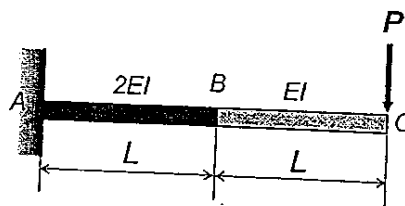

Figure Q4(b)
- (c) By using the results from parts (a) and (b) and the **Method of Superposition**, determine the vertical deflection at the joint H for the structure shown in Figure Q4(c).